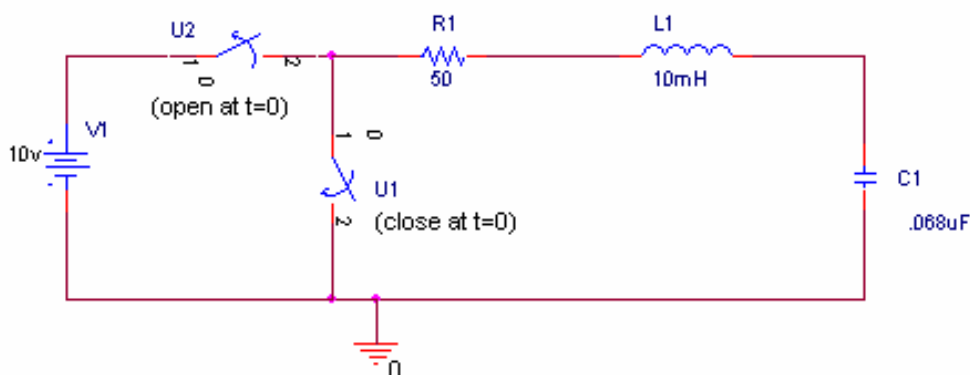

Figure D-3
- Create the oscillating circuit in figure D-3 above in PSpice